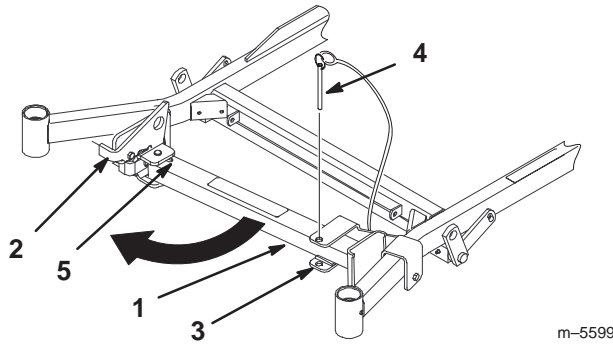

Figure 15
2. Remove bracket pin (Fig. 15).
3. Raise latch. Swing stand foot out front and slide stand toward machine, into the bottom of slot (Fig. 15 and 16).
4. Return stand to its rest position (Fig. 15).